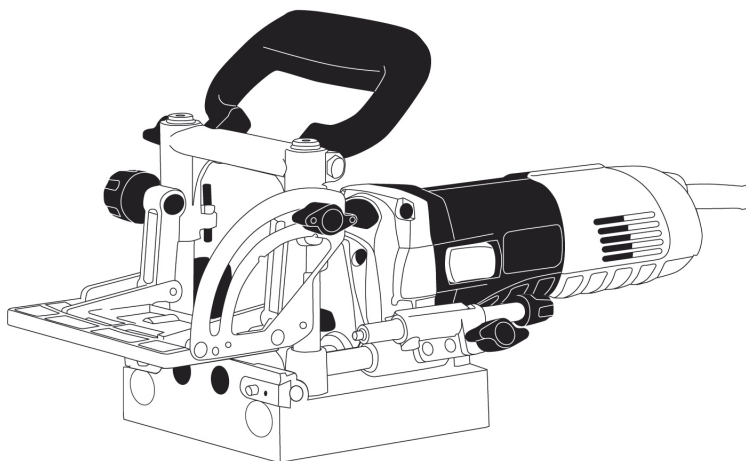

Fig.1
- A On/Off switch (Fig.1 and 3)
- B Auxiliary handle (Fig.1)
- C Folding base (Fig.1, 3 and 4)
- D Frontal base (Fig.1 and 4)
- E Depth gauge (Fig.1, 3 and 5)
- F Depth stop fixing wing nut (Fig.1, 3 and 5)
- G Folding base wing nut (Fig.1 and 3)